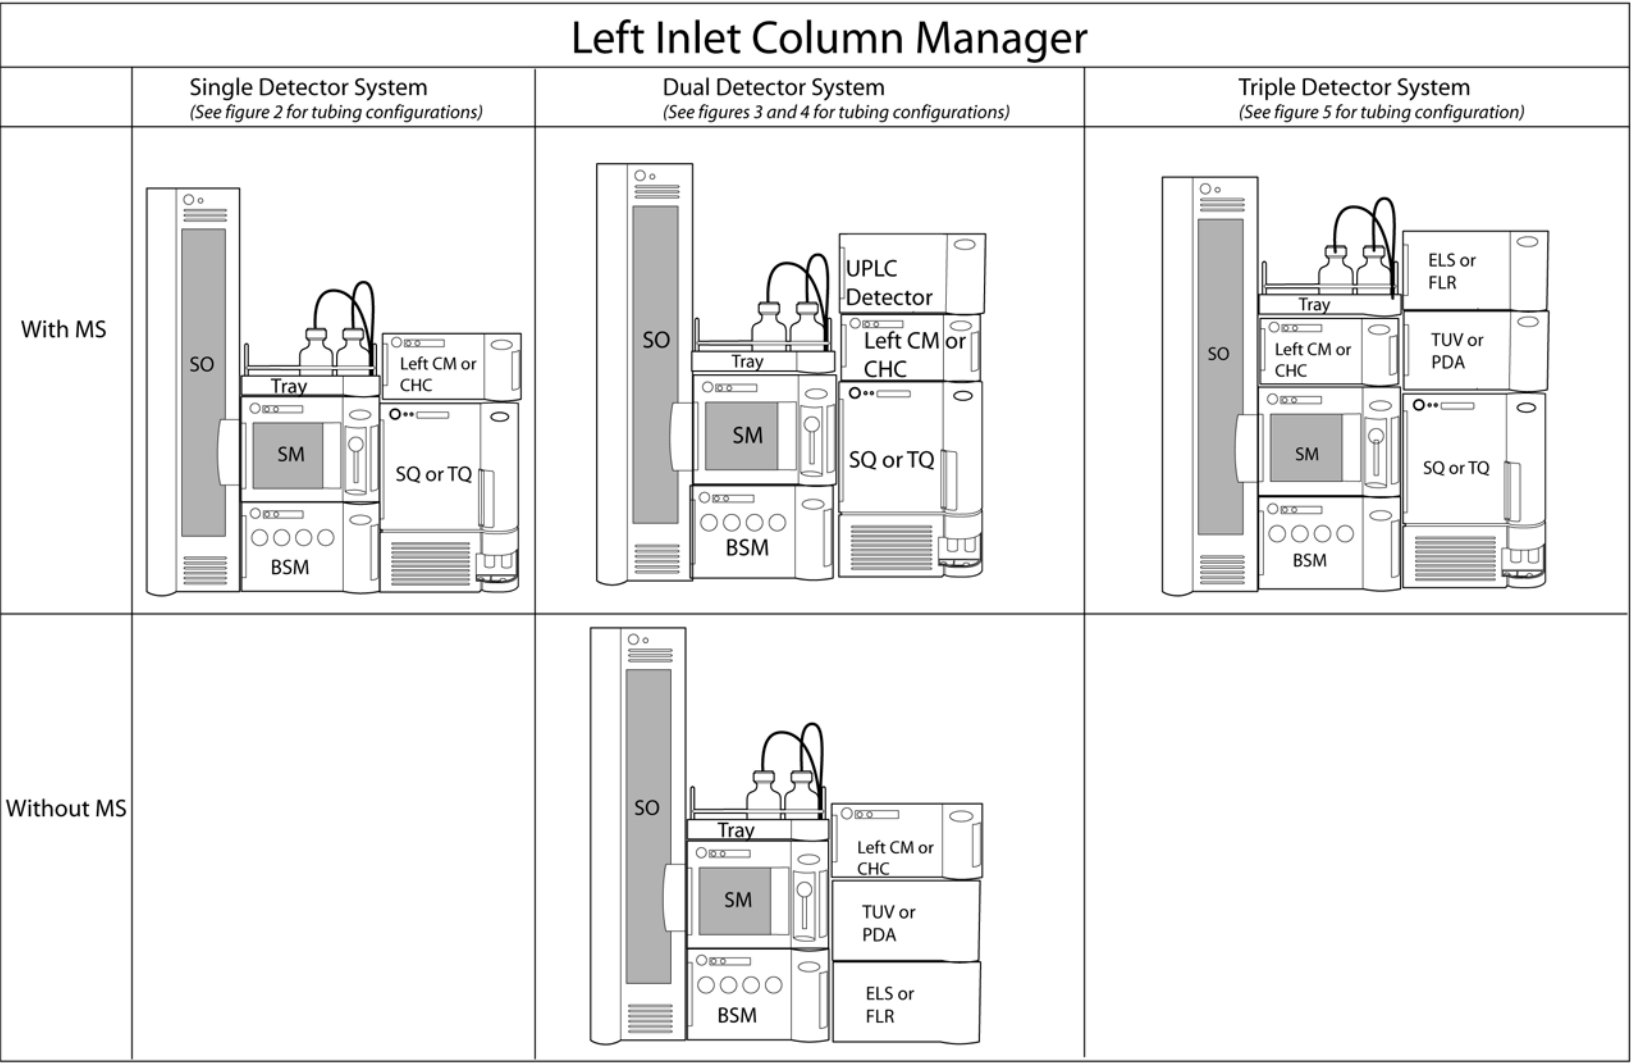

Figure 6 - Recommended Configurations for Systems with Left Column Manager
2. minimize downstream tubing runs in order to minimize dispersion (Figure 6)